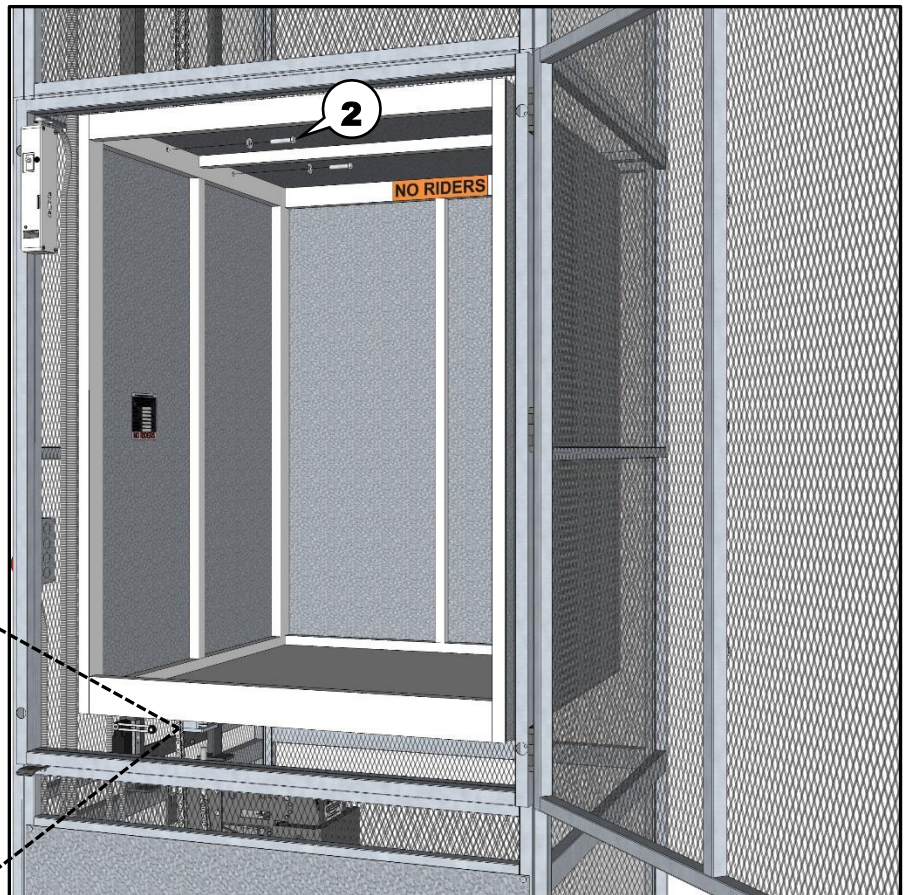

Figure 34
- 2** Use provided bolts & washers ($\frac{1}{4}$ "-20 x $1\frac{3}{4}$ " for the 100, 200 & 300) ($\frac{3}{8}$ "-16 x $1\frac{3}{4}$ " for the 500) to secure the lift carrier to the trolley. (see **Figure 34**)